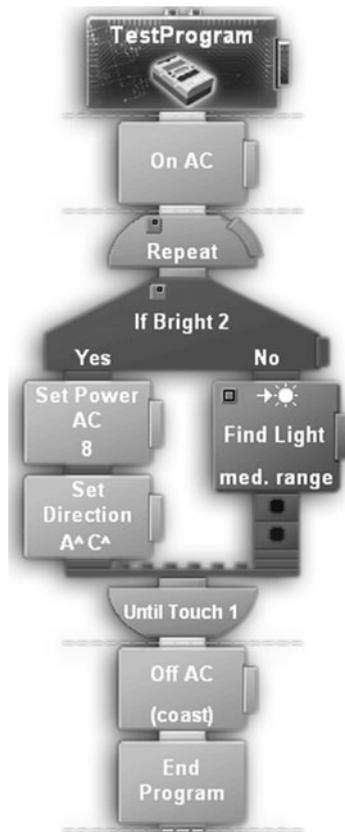

Fig. 13-2. RCX program.
**Try This:** An RCX program that mirrors the flowchart in Fig. 13-1 is shown in Fig. 13-2. The first thing this program does is turn on motors A and C.